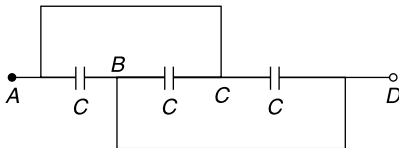

Fig. 2.30 Capacitance configuration (Ex. 2.18)
2.18 What is the capacitance across AD in Fig. 2.30?